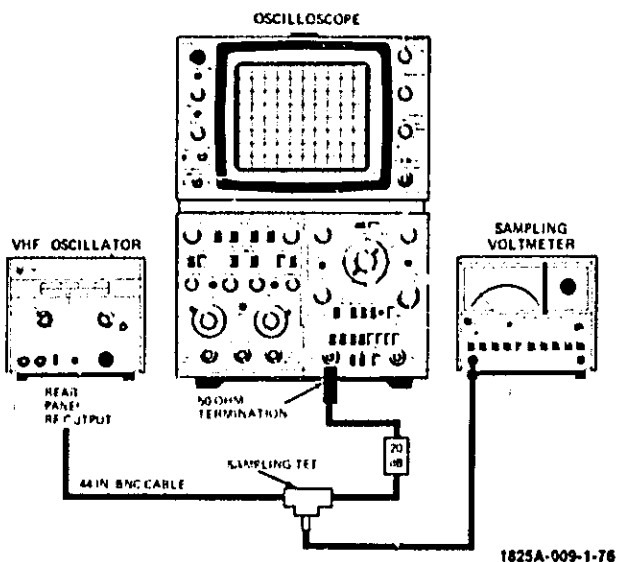

Figure 5-8. Trigger Recognition Threshold Adjustment Setup
a. Connect equipment as shown in figure 5-8.
a. Connect equipment as shown in figure 5-8 except connect input signal to delayed EXT INPUT connector.